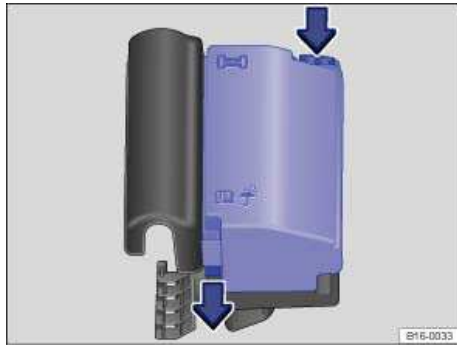

Fig. 165 In the engine compartment: Fuse box cover.
- Move the release tabs in the direction of the arrows ⇒ fig. 165 to unlock the fuse box cover.